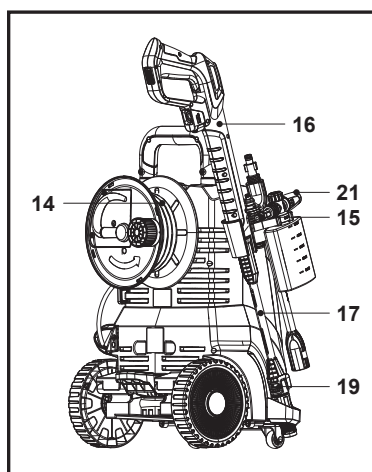

Fig. 26
3. Reel the pressure hose (14) and store the spray gun (16), extension lance (17), detergent bottle nozzle (21) and nozzle (19 / 20) (Fig. 26).